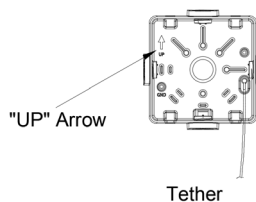

Fig.13
2. Orient Wall Mount Box so that "UP" Arrow is facing up, as shown in Fig.13
5. Bring Fixture up to the Wall Mount Box and slide the stainless-steel Tether from inside the Wall Mount Cover into the Keyhole Slot (Fig. 13) for hands free wiring